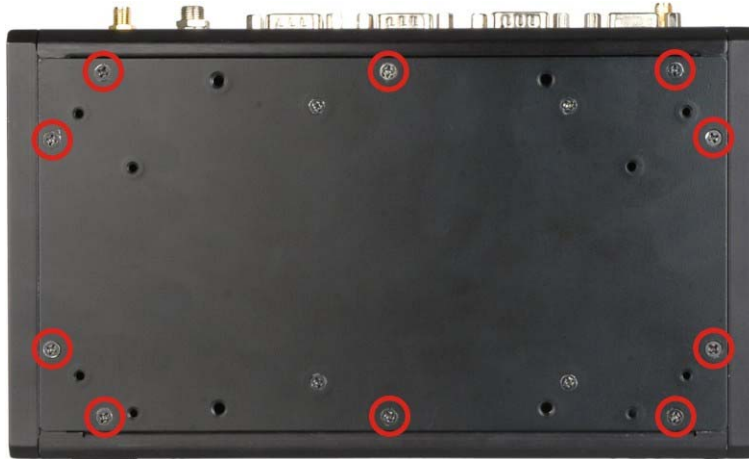

Figure 3-1: Bottom Surface Retention Screws
Step 1: Remove the bottom surface retention screws. The bottom surface is secured to the chassis with ten retention screws (**Figure 3-1**). All ten screws must be removed.